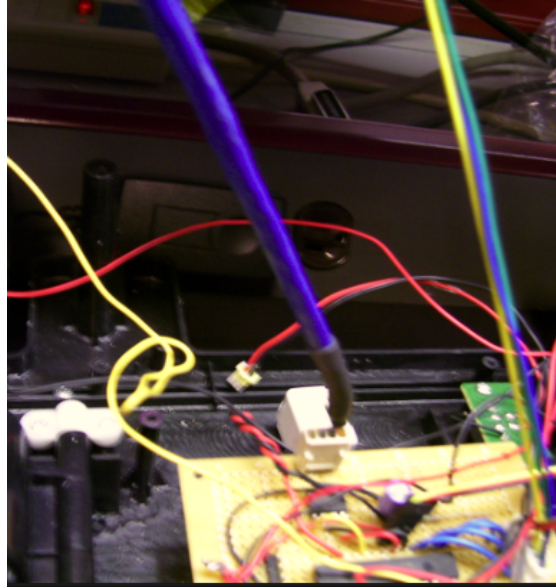

Figure 11: NI USB Connection with CAN MCU
- 3) The NI USB 8473 Device must be connected to CAN controller mounted inside the car frame. Take the **blue** wire connected to the male DB-9 head from Step 2, and connect its end to the CAN controller on the inside of the car. This connection is shown in the following Figure 11.